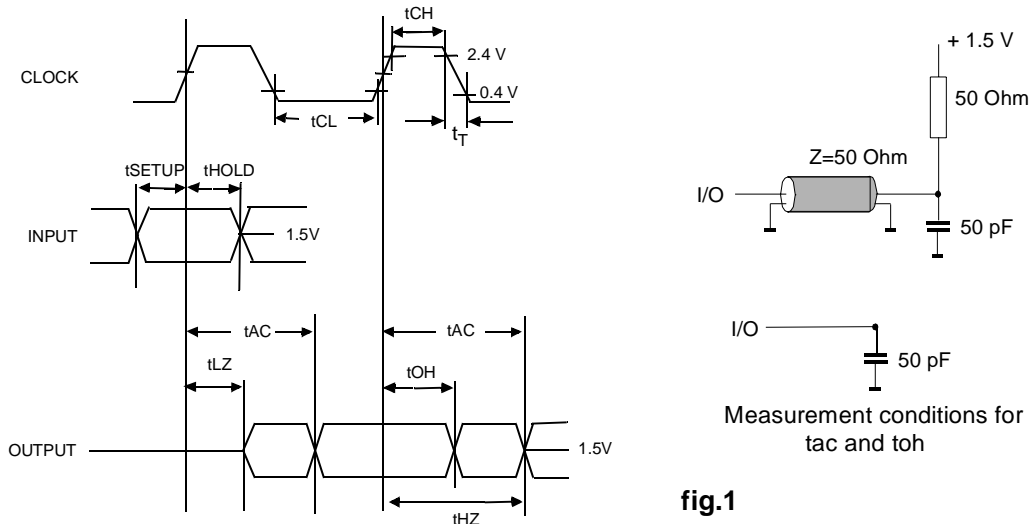

fig.1
2. AC timing tests for LV-TTL versions have  $V_{il} = 0.4 \text{ V}$  and  $V_{ih} = 2.4 \text{ V}$  with the timing referenced to the 1.4 V crossover point. The transition time is measured between  $V_{ih}$  and  $V_{il}$ . All AC measurements assume  $t_T = 1 \text{ ns}$  with the AC output load circuit shown in fig.1. Specified  $t_{ac}$  and  $t_{oh}$  parameters are measured with a 50 pF only, without any resistive termination and with a input signal of 1V / ns edge rate between 0.8V and 2.0 V.